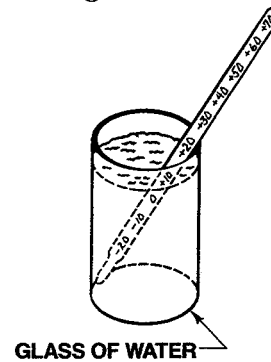

Figure 3.
- In refrigerator section, place thermometer in a glass of water and place in middle of refrigerator. Wait 5-8 hours. If temperature is not 38° to 40°F (+3° to +4°C), adjust the control, one number at a time. Check again after 5-8 hours. See Figure 3.